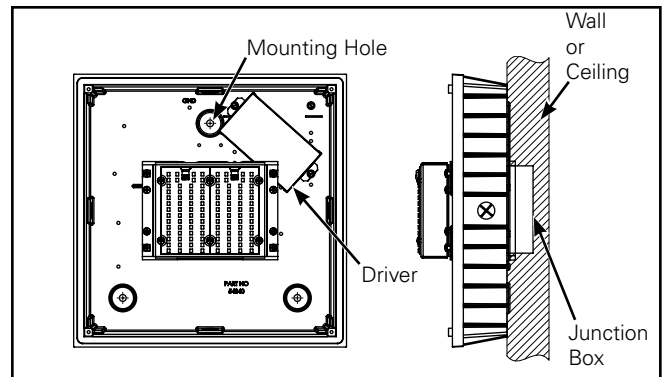

Figure 7.
- Center cast housing on flat smooth ceiling or wall over junction box. Use cast housing as a template to layout fastener locations (Figure 7).